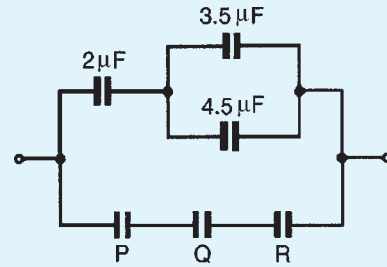

Figure 6.12
9. In Fig. 6.12 capacitors P , Q and R are identical and the total equivalent capacitance of the circuit is $3\ \mu\text{F}$. Determine the values of P , Q and R